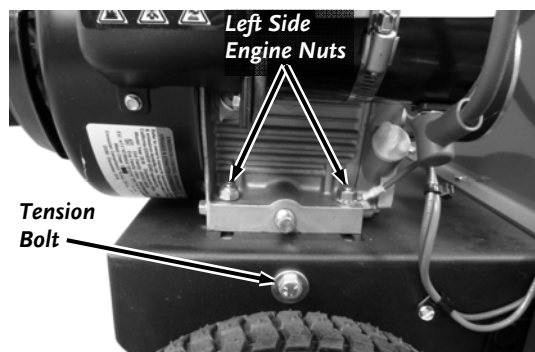

Figure 16
2. Loosen the two left side Engine Mount Locknuts using a 1/2" Wrench (**Figure 16**).
4. Loosen the Tension Bolt using a 1/2" Wrench (**Figure 16**) until the Engine can be moved enough to remove the Belt from the Clutch and Pulley.